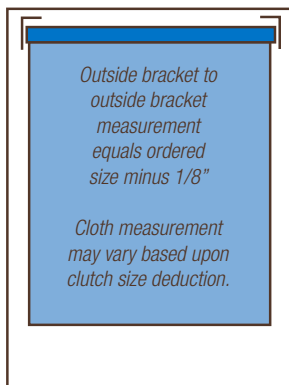
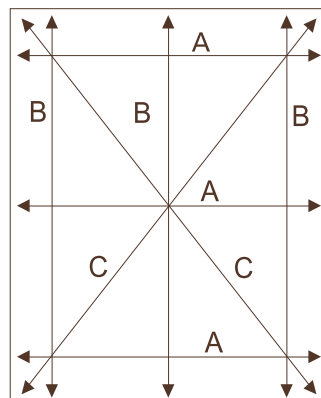
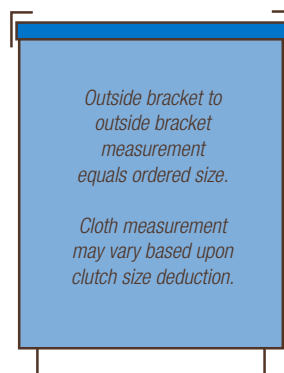
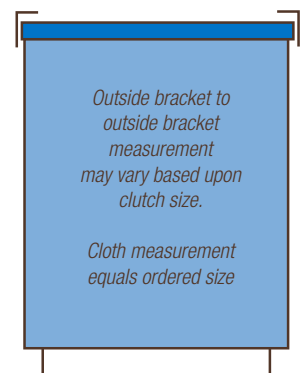

Fig. 4
Fig. 5
Fig. 6
Fig. 7
How you take your measurements will vary depending upon whether the shade fits within the window opening (inside mount or IB Fig.4 and Fig. 5) or overlaps the window opening (outside mount or OB Fig. 6 and Fig.7) With inside mounts, note that the shade fabric will be about $\frac{13}{8}$ " narrower than the window opening, so if complete privacy and light control is desired, optional side panels and bottom channels can be ordered.
MEASURING FOR INSIDE MOUNTS (FIG. 5)
2. Measure the height of the window opening at three locations, as shown in Fig. 5 and order the shortest measurement. Again, make no deductions. All necessary deductions will be made when the shade is fabricated.
- Please note the allowances pictured below for Roller Shades (Fig.6) to assure proper overlap or order Roller Shade as a cloth measurement (Fig.7).
- Please note the allowances pictured (Fig. 7) to assure that you have sufficient room to mount the bracket.